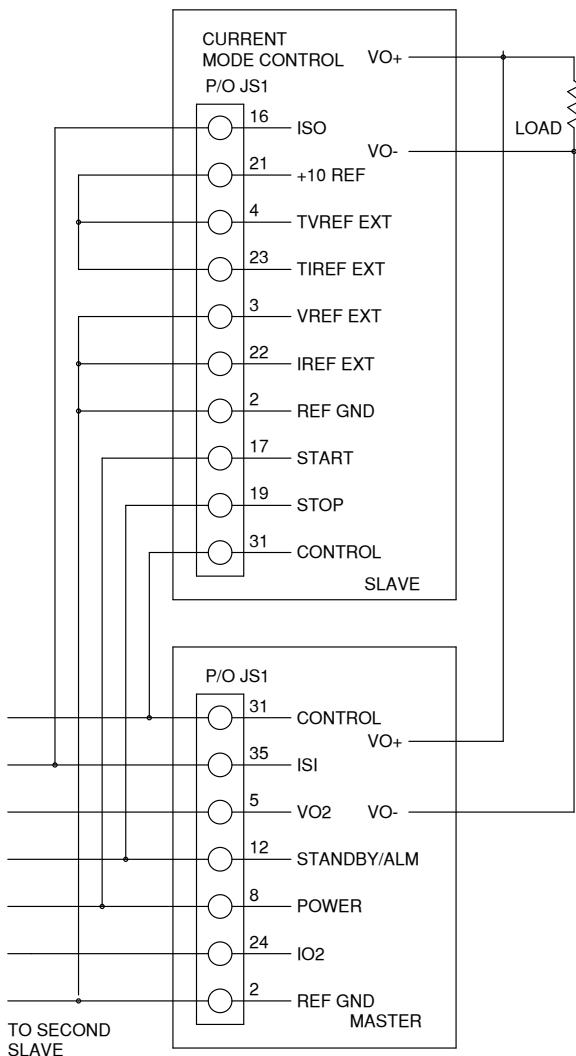

Figure 3.28. Master/Slave parallel connection
*Figure 3.28, “Master/Slave parallel connection”* illustrates the terminal connection for master/slave parallel operation and salient control circuitry. The control cable can be fabricated by the user or purchased as an option, UID47, from the factory. These connections perform the following functions: